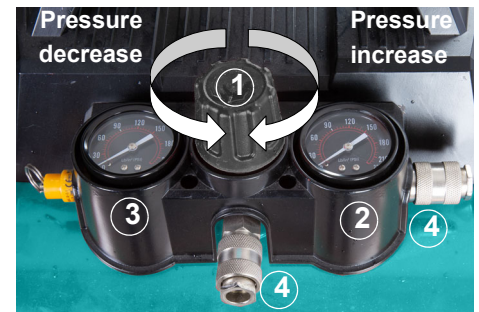

Fig.6-1: Setting the working pressure
The working pressure is set using the pressure regulator (pos. 3, fig. 6-1). The pressure can be read on the pressure gauge (pos. 2, fig. 6-1). The pneumatic tools are connected to the coupling (pos. 4, Fig. 6-1).